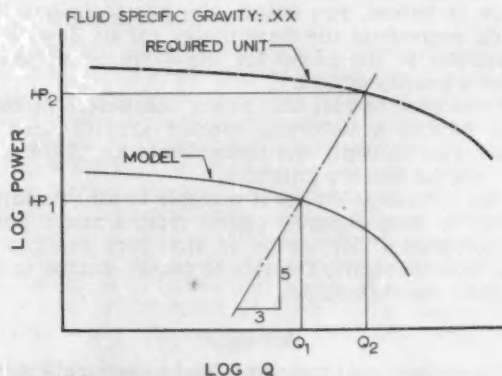

Fig. 2—Scaling chart of log power versus log flow.
There are other factors that we want to determine about the pump. These are primarily associated with the efficiency and shaft horsepower requirements. As shown in equations (1) and (2), the head varies as the square of the diameter and the flow varies as the cube of the diameter for points having constant efficiency. Thus, the power will vary as the fifth power of the diameter. As noted before, analogous points have the characteristic of being constant efficiency points, provided you ignore the scale effect which, for low viscosity liquids, and reasonable diameter ratios, can be neglected. Therefore, if we plot pump shaft horsepower against flow, we can use the same technique to scale up the shaft horsepower requirements. (See Fig. 2.) At this point, we must introduce one caution. Hydrodynamic pumps deliver a constant head of the pumped fluid, but this constant head may represent different values of pressure, depending on the density of the liquid. Therefore, in plotting head-capacity curves we can neglect the effect of the fluid specific gravity. But when we plot the pump power requirements, we can no longer neglect this factor. The power is the product of the flow and the specific weight times the head. Thus, the power curves must be for constant specific gravity and a correction must be applied to account for specific gravity changes. This is not difficult because the power ratio is directly proportional to the specific gravity ratio.